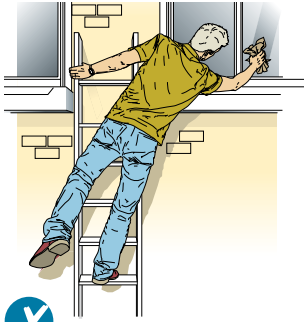

Figure 1a Incorrect - overreaching and not maintaining three points of contact
- overreach - keep your belt buckle (navel) inside the stiles and both feet on the same rung throughout the task (see Figures 1a and 1b).